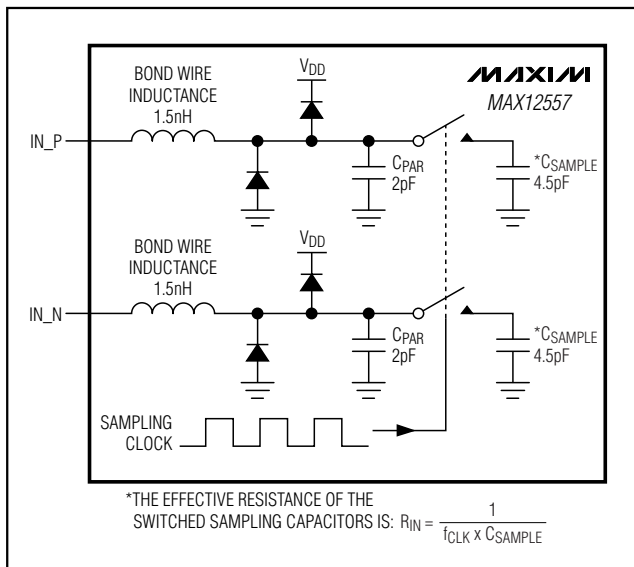
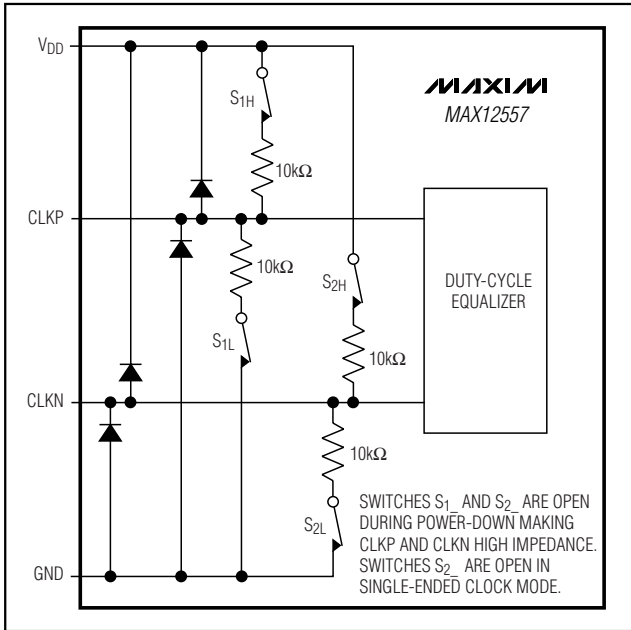

Figure 3. Internal T/H Circuit
Figure 4. Simplified Clock Input Circuit
Figure 3 displays a simplified functional diagram of the input T/H circuit. This input T/H circuit allows for high analog input frequencies of 175MHz and beyond and supports a $V_{DD} / 2$ common-mode input voltage.
The MAX12557 sampling clock controls the switched-capacitor input T/H architecture (Figure 3) allowing the analog input signals to be stored as charge on the sampling capacitors. These switches are closed (track mode) when the sampling clock is high and open (hold mode) when the sampling clock is low (Figure 4). The analog input signal source must be able to provide the dynamic currents necessary to charge and discharge the sampling capacitors. To avoid signal degradation, these capacitors must be charged to one-half LSB accuracy within one-half of a clock cycle. The analog input of the MAX12557 supports differential or single-ended input drive. For optimum performance with differential inputs, balance the input impedance of IN_P and IN_N and set the common-mode voltage to mid-supply ($V_{DD} / 2$). The MAX12557 provides the optimum common-mode voltage of $V_{DD} / 2$ through the COM output when operating in internal reference mode and buffered external reference mode. This COM output voltage can be used to bias the input network as shown in Figures 9, 10, and 11.
The MAX12557 accepts both differential and single-ended clock inputs with a wide 25% to 75% input clock duty cycle. For single-ended clock input operation, connect DIFFCLK/SECLK and CLKN to GND. Apply an external single-ended clock signal to CLKP. To reduce clock jitter, the external single-ended clock must have sharp falling edges. For differential clock input operation, connect DIFFCLK/SECLK to OVDD. Apply an external differential clock signal to CLKP and CLKN. Consider the clock input as an analog input and route it away from any other analog inputs and digital signal lines. CLKP and CLKN enter high impedance when the MAX12557 is powered down (Figure 4).
- 1) INAP/B, INAN/B analog inputs are disconnected from the internal input amplifier (Figure 3).
- 6) CLKP, CLKN clock inputs enter a high-impedance state (Figure 4).